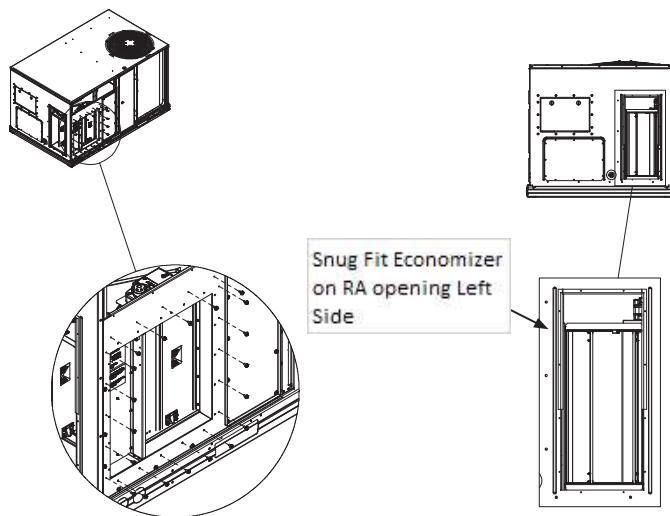

Fig. 10. - Attaching OA Panel to Economizer Assembly
10. Use provided #10 x 5/16" screws to attach Economizer to the OA Panel - See Fig. 10.